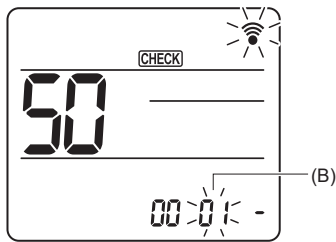

Fig. 6-21
Press the **[DOWN]** button to set Mode number (B). (Fig. 6-21)